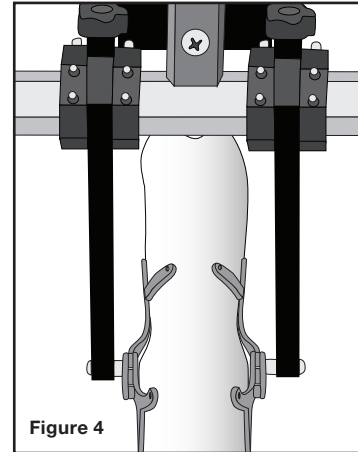

Figure 4
2. Contour distal "Y" stirrups to positive model. See Figure 4.